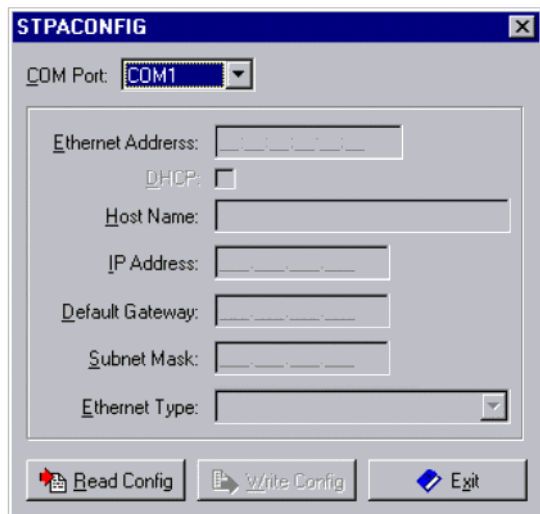

Figure 2-9 Serial configuration dialog
3. Start the Serial Configuration Utility from the **Start** menu. The dialog box in Figure 2-9 is displayed.